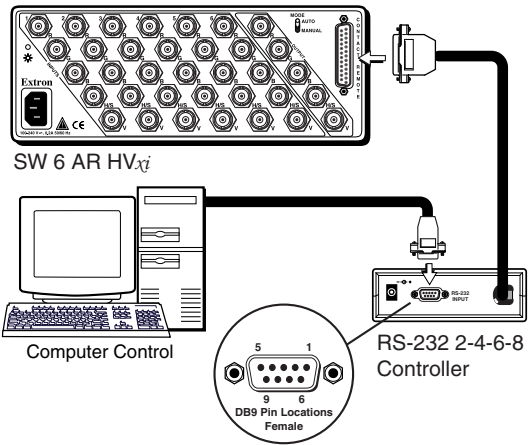

Figure 26 — RS-232 2-4-6-8 adapter
1. Connect the RS-232 cable from the PC serial port to the RS-232 2-4-6-8 adapter’s RS-232 input connector (figure 26).